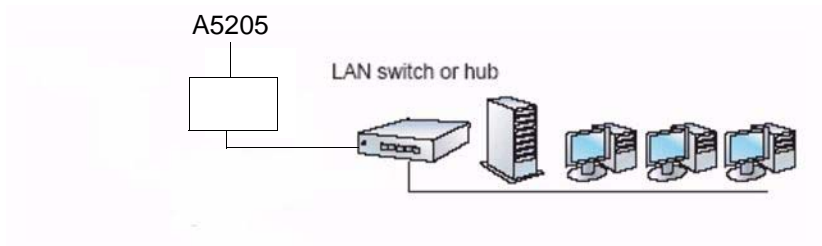

Figure 3-3: Powering up A5205 via an 802.3af-compliant switch
- 1) Connect the A5205 Sensor to an IEEE 802.3af-compliant network switch (e.g, a Cisco Catalyst 3560 Series PoE-24) using a 10/100 Ethernet cable. See Figure 3-3.